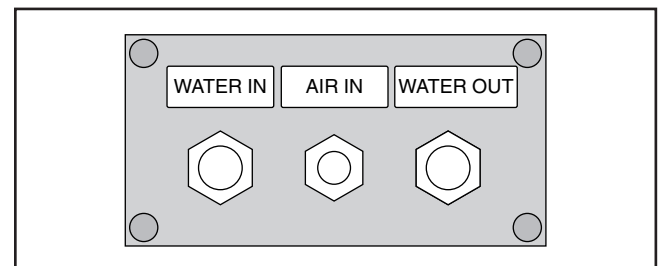

Figure 21. Water and air connection points on auxiliary systems connection panel.
3. Connect opposite end of OUTLET hose to auxiliary systems connection panel WATER IN fitting (see **Figure 21**).
4. Connect opposite end of INLET hose to auxiliary systems connection panel WATER OUT fitting (see **Figure 21**).
2. Install air pump tubing onto outlet port barbed fitting, and connect to auxiliary systems connection panel AIR IN fitting (see **Figure 21** on **Page 21**).